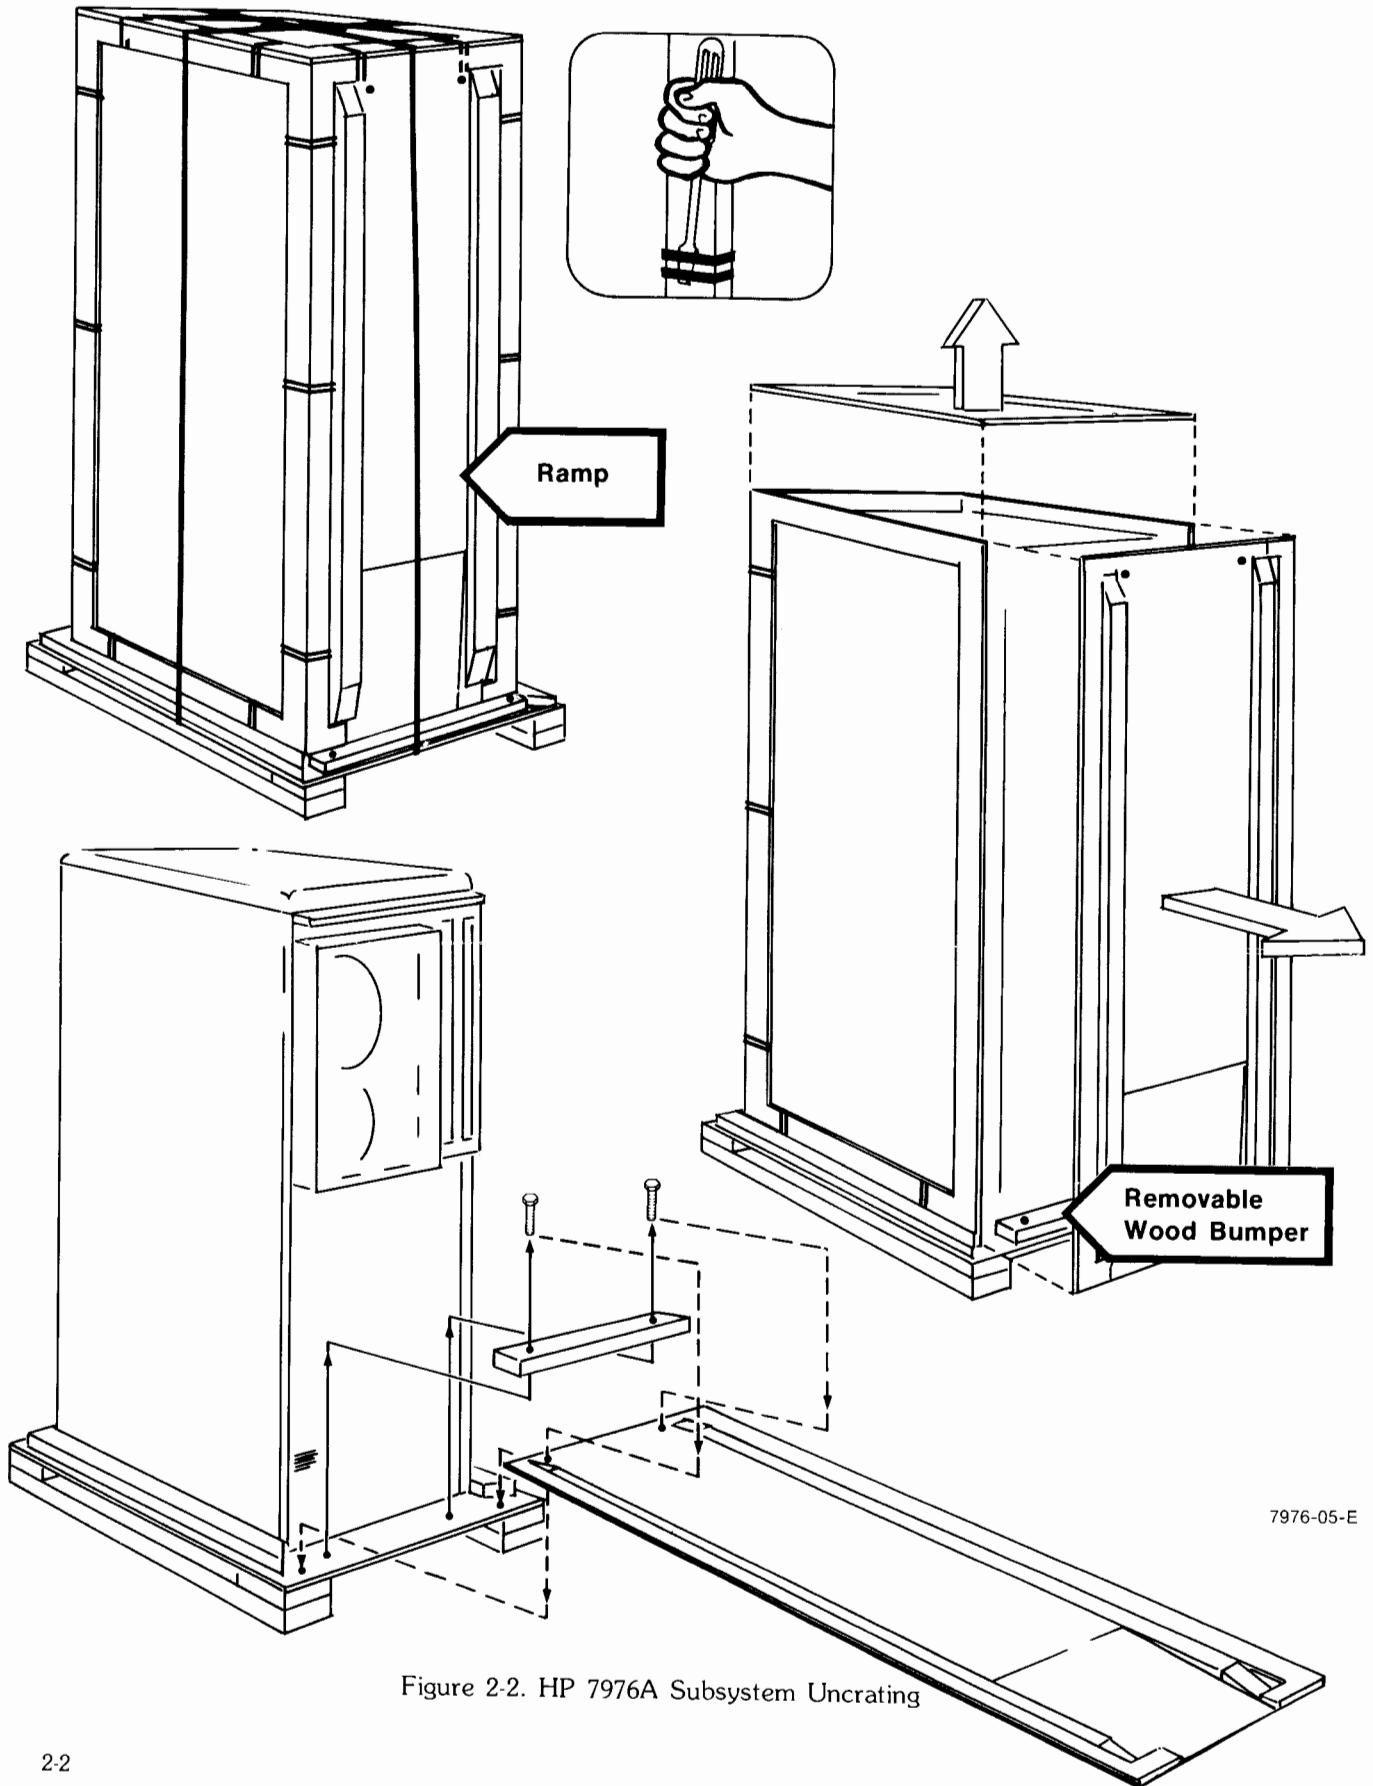

Figure 2-2. HP 7976A Subsystem Uncrating
The following instructions describe the uncrating procedure for the HP 7976A Magnetic Tape Subsystem (figure 2-2). This procedure requires a pair of diagonal pliers, an adjustable wrench, a flat-blade screwdriver, and at least two people for unloading the subsystem.
- b. Remove all the clips from around the top of the crate and remove the top cover. The clips can be removed by inserting the blade of a screwdriver under the clip and prying (see figure 2-2).
The shipping crate side panel with the two wood planks (2 by 4s) stapled to the length of the panel, doubles as a ramp. The outside of this panel/ramp is the top of the ramp (refer to figure 2-2).